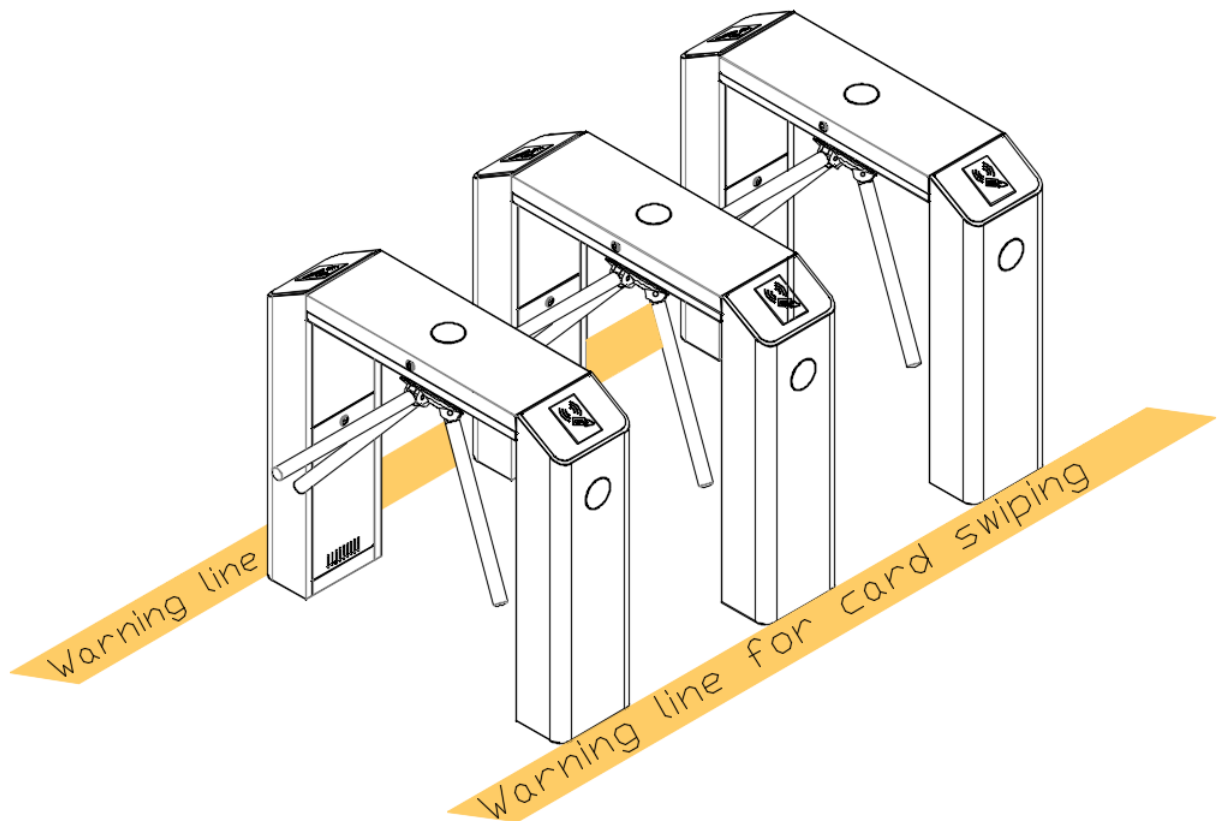

Figure 3-2
3. You are also recommended to set a warning line for card swiping (see Figure 3-2). The warning line prompts users to swipe cards in a particular area, which would greatly reduce the probability of equipment failure caused by improper operations.